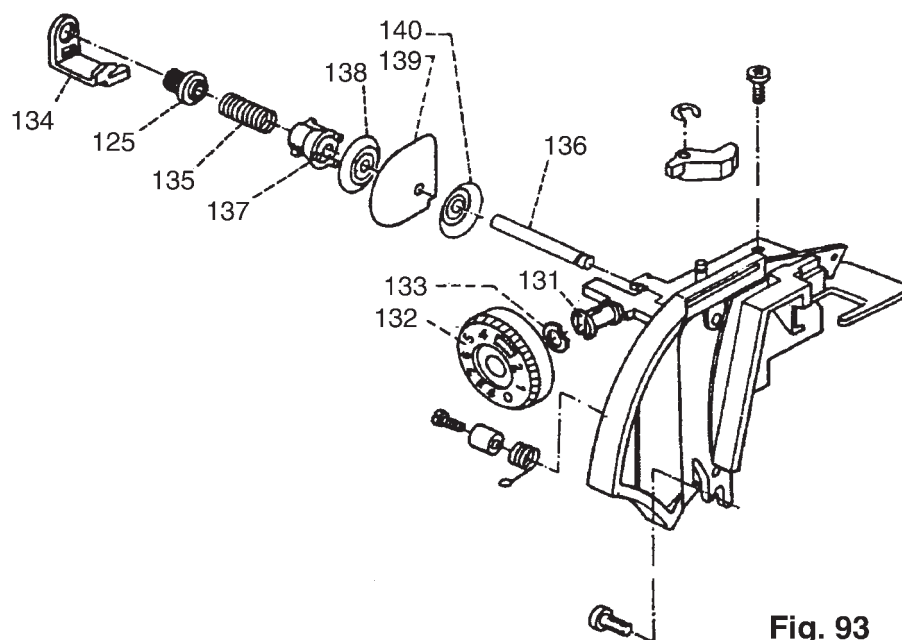

Fig. 93
- Press the two plastic noses 131 together and remove tension dial 132 (fig. 93).